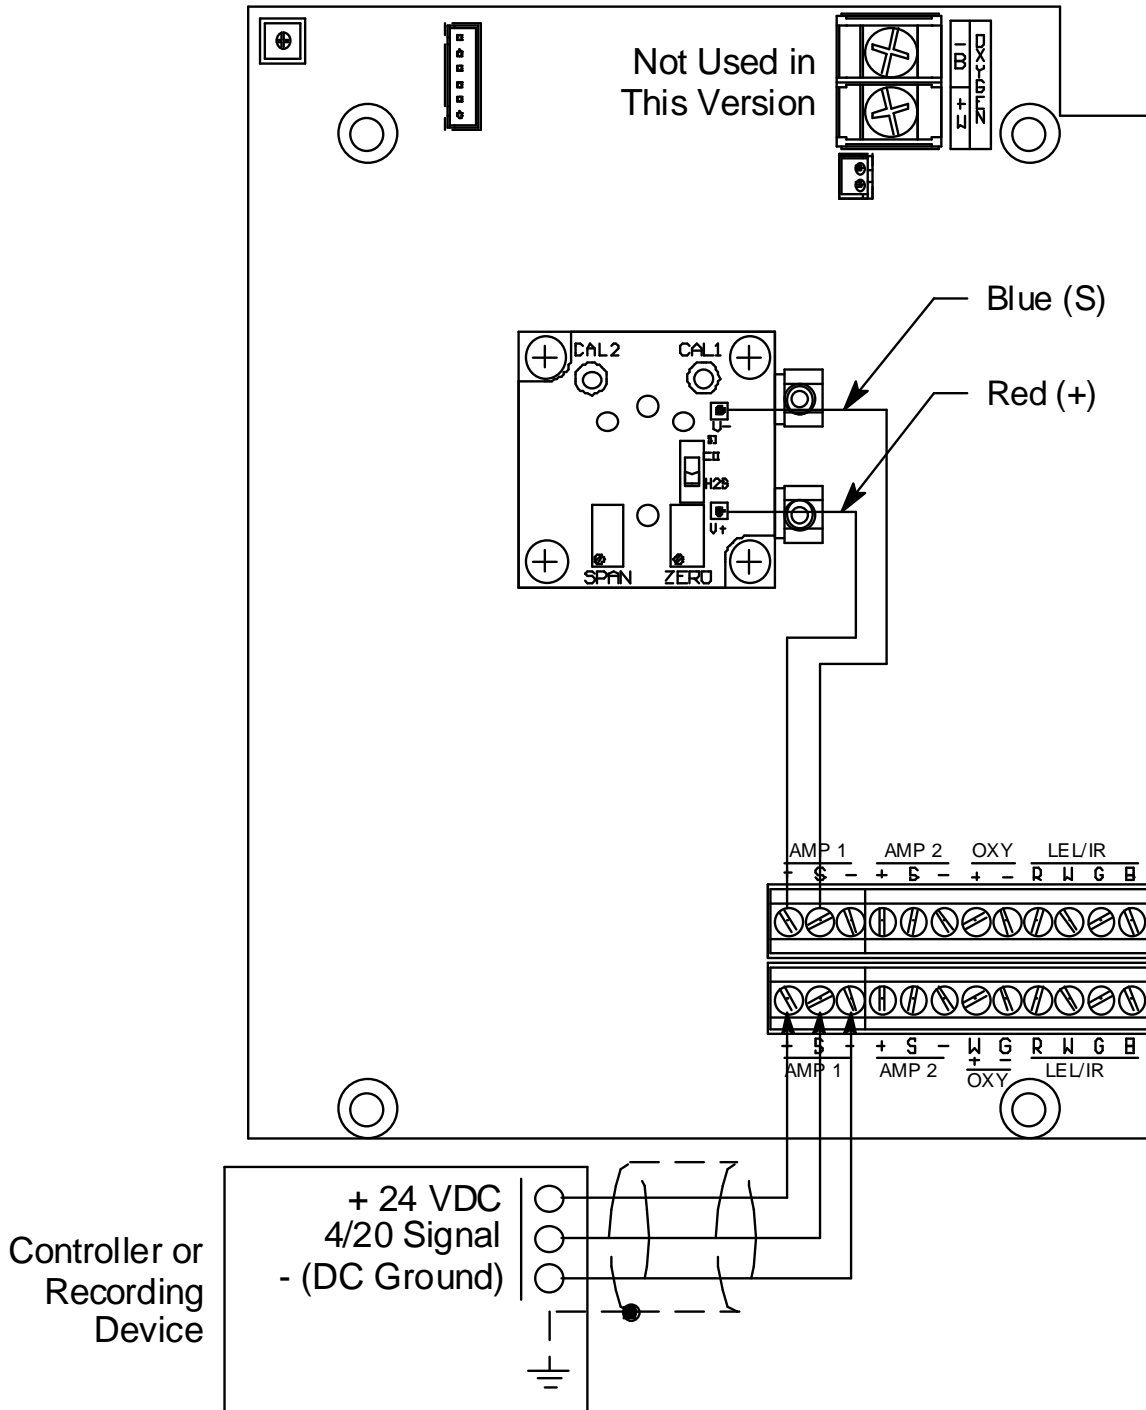

Figure 5: Wiring the Sample-Draw Detector to a Controller
5. Connect the cable to the sample-draw detector’s interconnect terminal strip as shown in Figure 5.
8. Connect the wires to the applicable detector/transmitter terminal strip at the controller as shown in Figure 5. Refer to the controller operator's manual and the controller detector head specification sheet for the 35-3001-03 for detector/terminal strip connections specific to the controller.